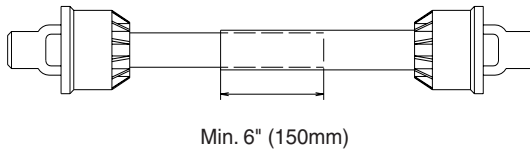

Fig. 2
- Note:** The shaft must always have a minimum overlap of 6" (150 mm) (Fig. 2).